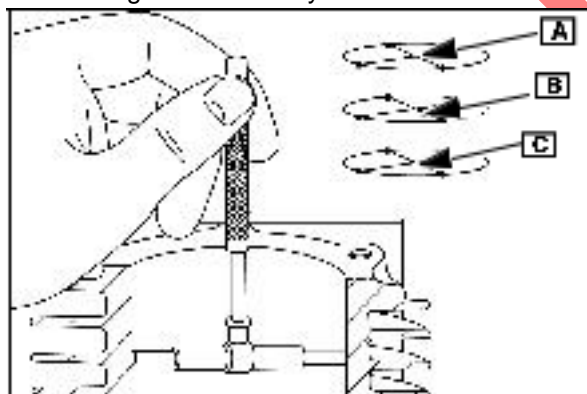

Fig. 45
Measure the cylinder bore twice at right angles at each of the positions shown in Fig. 45.
Third two measurements, at position (C) Fig. 45) at the bottom of the piston ring travel in the cylinder bore.